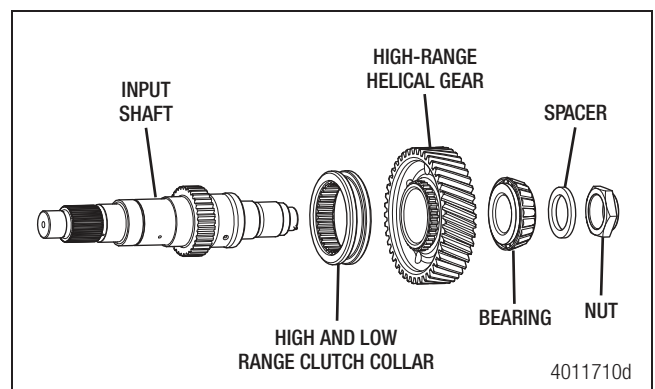

Figure 7.11
7. **MTC-4208XL/XLEV/XLEC and MTC-4210XL/XLEV/XLEC transfer cases only:** Install the high- and low-range clutch collar over the input shaft splines. Place the high-range helical gear over the input shaft with the spline side of the gear facing the low-range helical gear. Install the bearing cone with the large end of the cone toward the high-range gear. Install the spacer on the shaft next to the bearing cone. Figure 7.11.